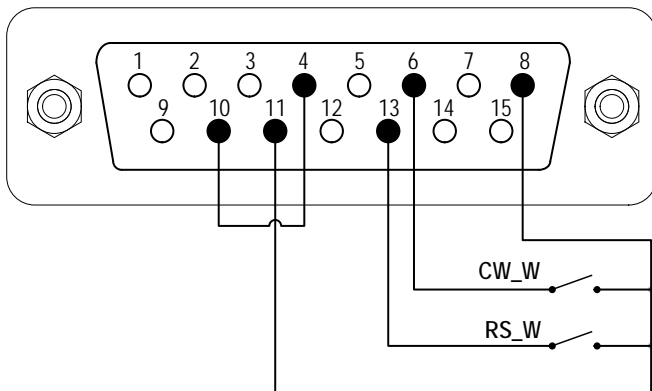

Figure 25. Logic Level 2 Control with Internal 12V Power Source
- 1) Switch the power off. Wire the DB15 connector as shown on Figure 25 or Figure 26, and connect it to the DB15 port on the rear of the pump.